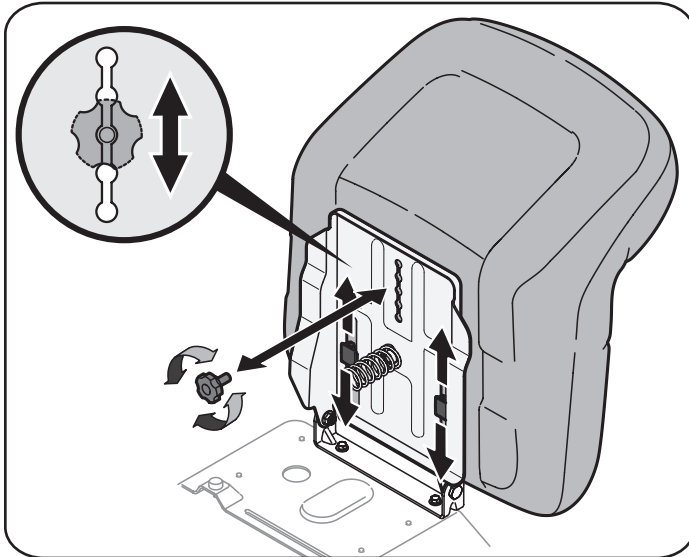

Figure 8
1. To adjust the position of the seat, remove the adjustment knob on the bottom of the seat. Slide the seat forward or backward as desired. Reinstall the adjustment knob. Refer to Figure 8.